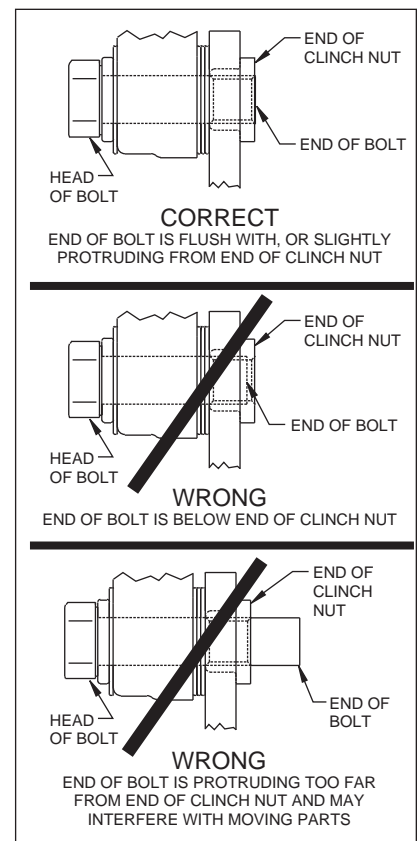

Figure 3.
- NOTE:** Please reference the caution statement at the beginning of the assembly instructions. Mount the caliper (18) onto the caliper bracket (1) using washers (19) and bolts (20). Finger tighten. View the rotor (11) through the top opening of the caliper (18). The rotor (11) should be aligned in the center of the caliper (18). If not, adjust the caliper (18) by using 0.032 inch thick shims (21) placed between the caliper mounting bracket (1) and the caliper (18). Finger tighten and recheck alignment. Add as many shim washers (21) as necessary to achieve the correct alignment. **NOTE:** The end of the bolt must be flush with or slightly protruding from the head of the clinch nut. See Figure 3. Place spare shims (21) between washer and caliper mounting ear to achieve the proper mounting fastener configuration. Always use the same amount of shims on both the top and bottom caliper mounting bolts (20). Apply red Loctite® 271 to bolt threads (20) and torque to 40 ft-lb.
- Install the disc brake pads (22) and secure using cotter pin (23).